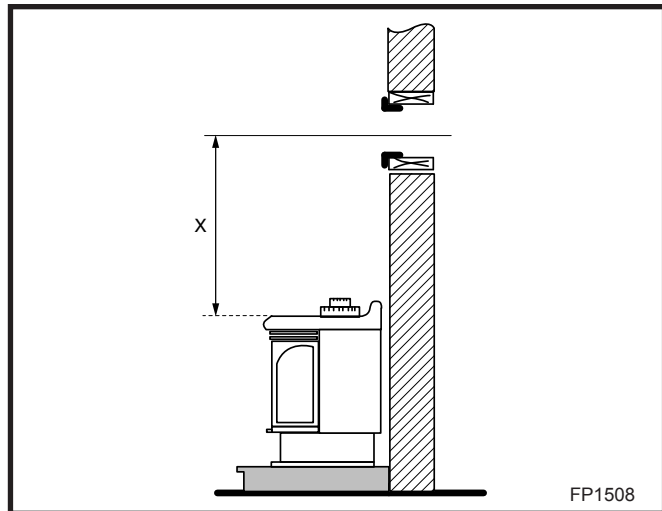

Fig. 15 Height to center of wall opening.
Place stove into position. (Fig. 15) Measure the vertical height (X) required from the base of the flue collars to the center of the wall opening.